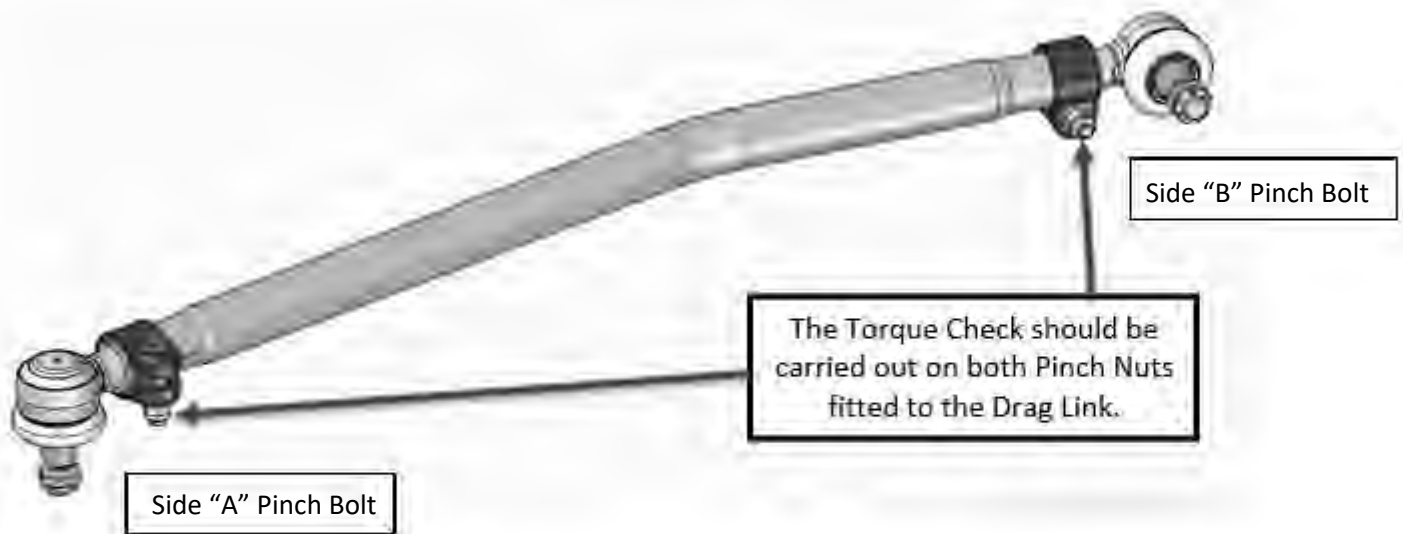

Figure 2
1. The full procedure should be carried out on both ends of the drag link. (*See Figure 2*)